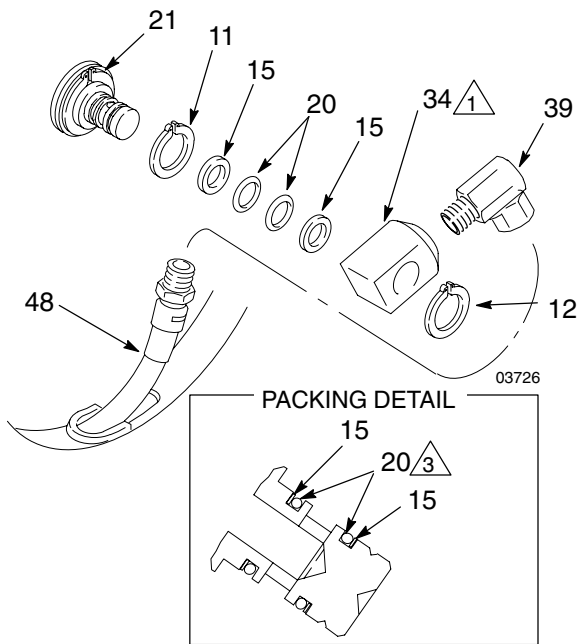

Fig. 15 Medium-Pressure Hose Reel
2. Disassemble the parts as shown in Fig. 15 and 16 (depending on your hose reel model). Clean the parts, and inspect them for wear or damage.
3. Grease the new parts, and lubricate the cavity of the swivel assembly (34) with high-quality grease. Install the parts as shown in Fig. 15 or 16, depending on your hose reel model.